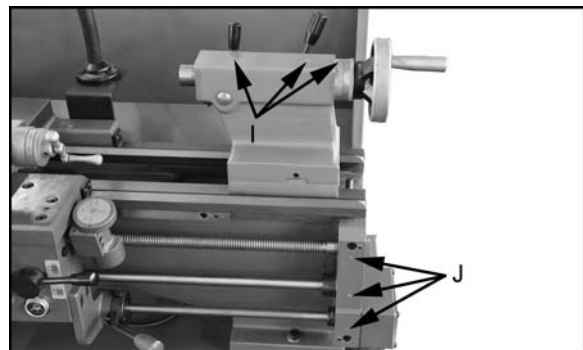
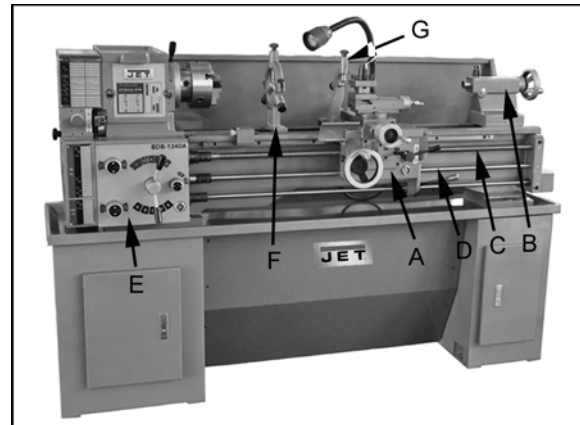

Figure 10
Figure 13
12. **Tailstock** - Lubricate three ball oilers (I, Fig. 10) once daily with Mobil DTE® Oil Heavy Medium.
13. **Leadscrew/Feed Rod** - Lubricate three ball oilers once daily (J, Fig. 10) with Mobil DTE® Oil Heavy Medium.
The apron (A, Fig. 13) is mounted to the carriage. In the apron a half nut is fitted. The half nut gibs can be adjusted from the outside. The half nut is engaged by use of a lever. Quick travel of the apron is accomplished by means of a bed-mounted rack and pinion, operated by a hand wheel on the front of the apron.
The tailstock (B, Fig. 13) slides on a v-way and can be locked at any location by a clamping lever. The tailstock has a heavy-duty spindle with a Morse Taper #3.
The leadscrew (C Fig. 13) and feed rod (D, Fig. 10) are mounted on the front of the machine bed. They are connected to the gearbox at the left for automatic feed and lead. They are supported by bushings on both ends. Both are equipped with brass shear pins.
The gear box (E, Fig. 13) is made from high quality cast iron and is mounted to the left side of the machine bed.
The steady rest (F, Fig. 13) serves as a support for shafts on the free tailstock end. The steady rest is mounted on the bedway and secured from below with a bolt, nut and locking plate. The sliding fingers require continuous lubrication at the contact points with the workpiece to prevent premature wear.
The traveling follow rest (G, Fig. 13) is mounted on the saddle and follows the movement of the turning tool. Only two fingers are required as the turning tool takes the place of the third. The follow rest is used for turning operations on long, slender workpieces. It prevents flexing of the workpiece from the pressure of the cutting tool.